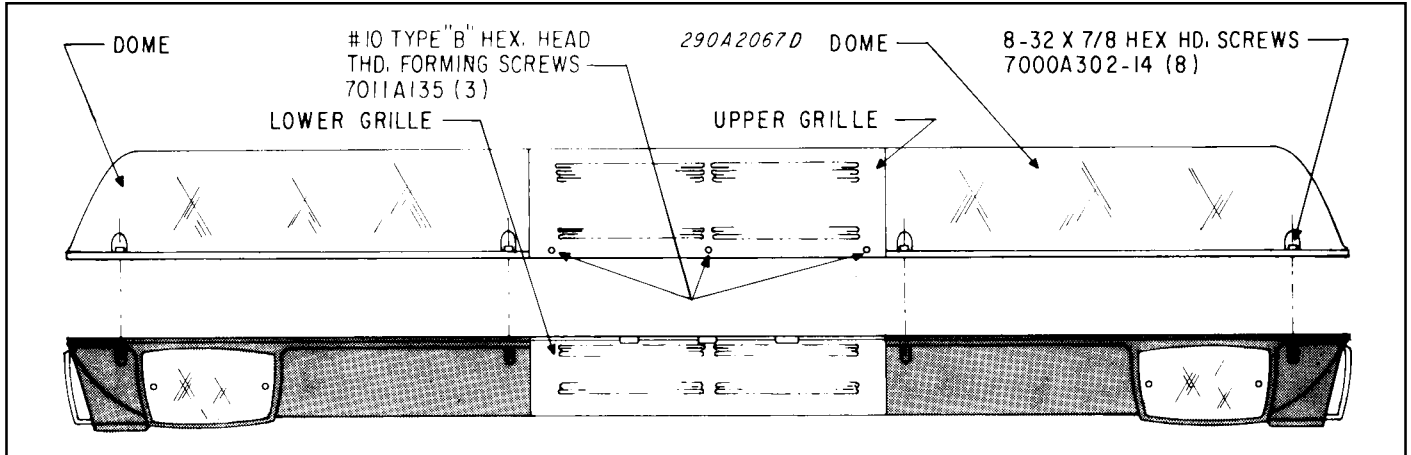
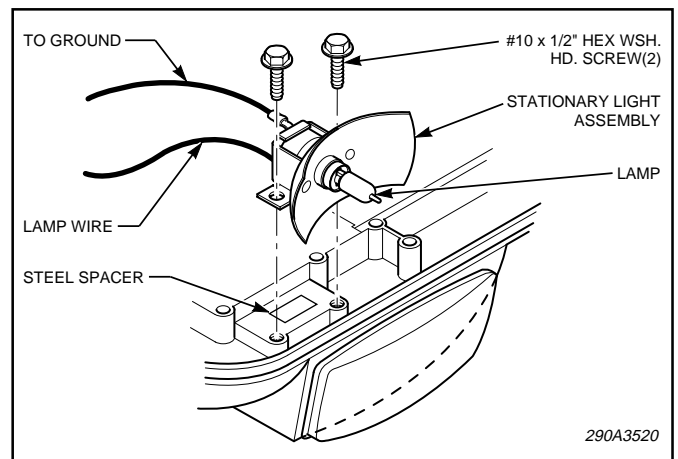

Figure 1.
Figure 2.
**A. DOME AND GRILLE REMOVAL (see figure 1).**
2. Remove three (3) #10 type "B" hex washer head thread-forming screws which secure the upper speaker grille to the lower speaker grille. Lift upper grille away from lower grille.
**B. INSTALLATION OF STATIONARY LIGHT ASSEMBLY (see figure 2).**
1. Install steel spacer and secure the stationary light assembly to the pod with two (2) #10 x 1/2 hex washer head screws (supplied).